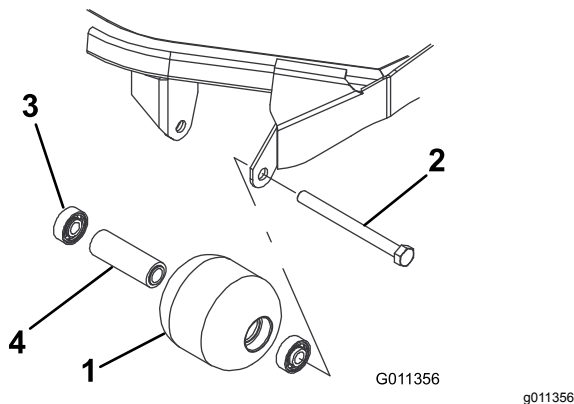

Figure 99
1. Remove the roller-mounting bolt (Figure 99).
1. Press the first bearing into the roller housing (Figure 99). Press on the outer race only or equally on the inner and outer race.
2. Insert the spacer (Figure 99).
3. Press the second bearing into the roller housing (Figure 99) pressing equally on the inner and outer race until the inner race comes in contact with the spacer.
4. Inspect the roller housing, bearings, and bearing spacer for damage (Figure 99).